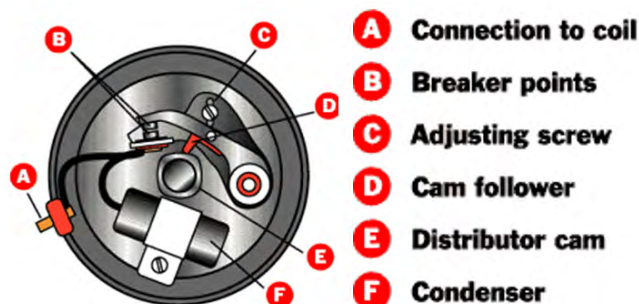

Figure 3.11: Contact Breaker (CB)
The contact breaker (CB) is a mechanical switch consisting of two contact points, a fixed contacts screwed down to a base plate and a movable contact. Figure 3.11 shows Contact Breaker (CB).